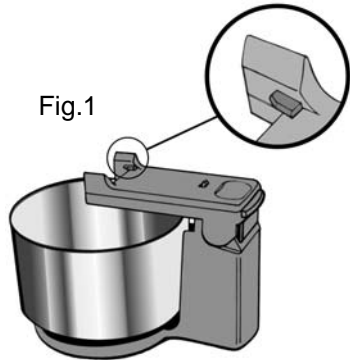

Fig.1
- The stand for the Power Mixer has two tabs on top. (Fig. 1)